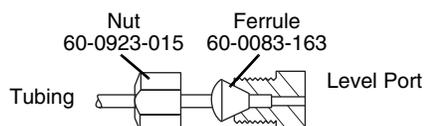

Figure 2-1 Level tubing connection with nut and ferrule
3. Connect the air line to the A LEVEL port (refer to Figure 2-1):